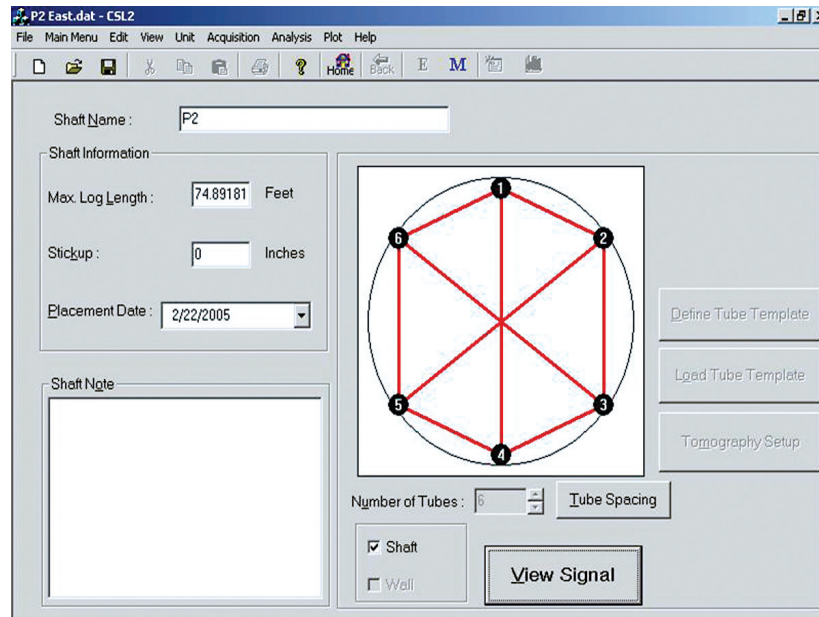

Figure 19: Recalled Shaft Information
1. The dialog box in Figure 19 should appear on the screen to let the user select the existing shaft (or file). Select the shaft needed to be analyzed and click "open".